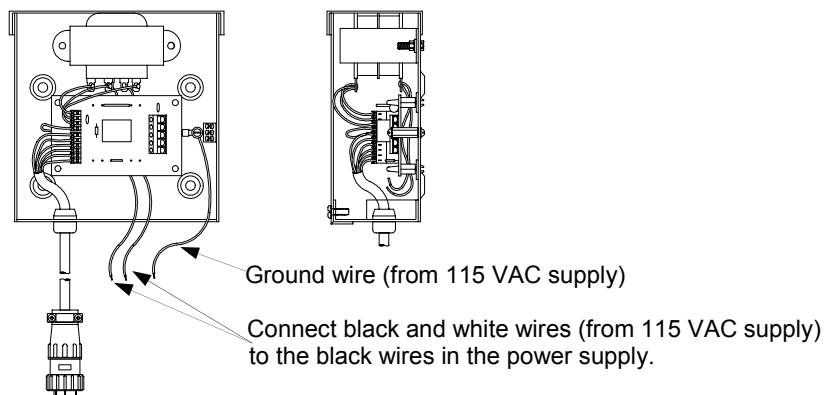

Figure 9
3. The center hole on the underside of the power supply box provides access for conduit and connection of 115 VAC power. Connect the 115 VAC black and white leads in the power supply as shown. (Figure 9)
4. Connect the ground wire to the ground terminal as shown in figure 9.